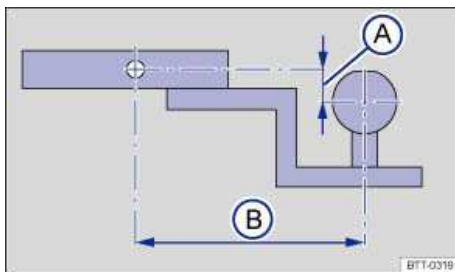

Fig. 120 Dimensions of the ball mount support.
The receiver used requires both a ball mount and a ball that meet special requirements regarding geometry and size. This applies to both the height of the ball above the surface where it attaches ⇒ fig. 120 (A), and the pin-to-ball distance (B).